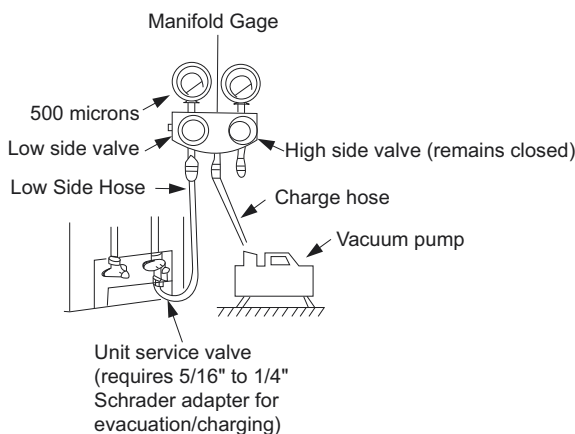

Fig. 10 — Manifold
3. Fully open the low side of the manifold gage (see Fig. 10).